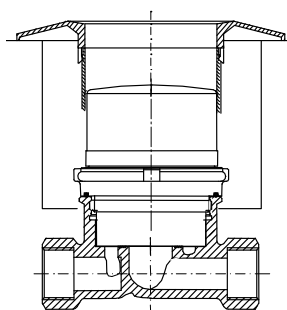

Fig. 3
- 1.13. Push the rosette onto the register cap until the end stop (see Fig. 3). For wet room installations with an extension connector, a rosette disk can also be inserted and this must be ordered separately.